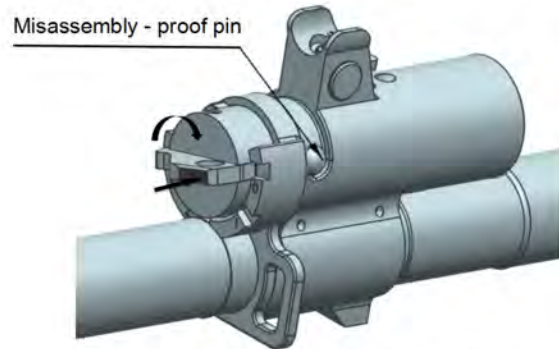
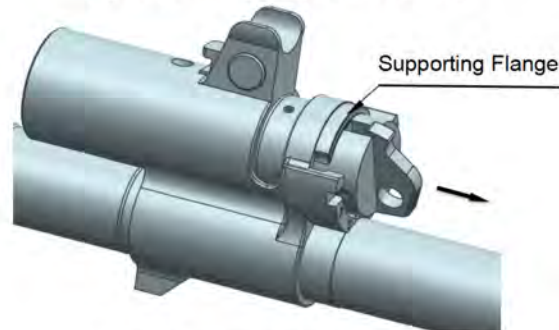

Fig. 19 Removing the gas control, Step 2
Fig. 20 Removing the gas control, Step 3
- (2) Turn the gas control to get the misassembly proof pin in contact with its slot, press the misassembly-proof pin and continue to turn the gas control (use a tool if turning it by hand is difficult) (See Fig. 19) until the supporting flange completely leaves the corresponding locating groove on the gas block. Then pull out the gas control (See Fig. 20).